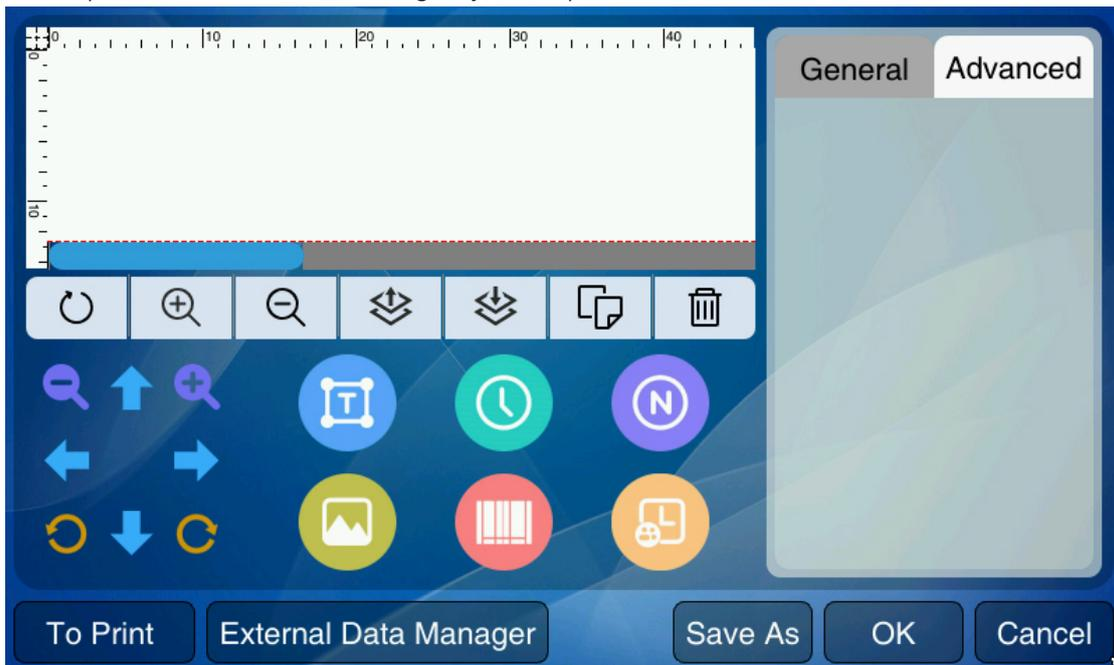

Figure 5-4 File editor interface
2. Click  button. The page for editing the file is displayed. As shown in Figure 5-4. On this screen, you can enter the required information according to your requirements.